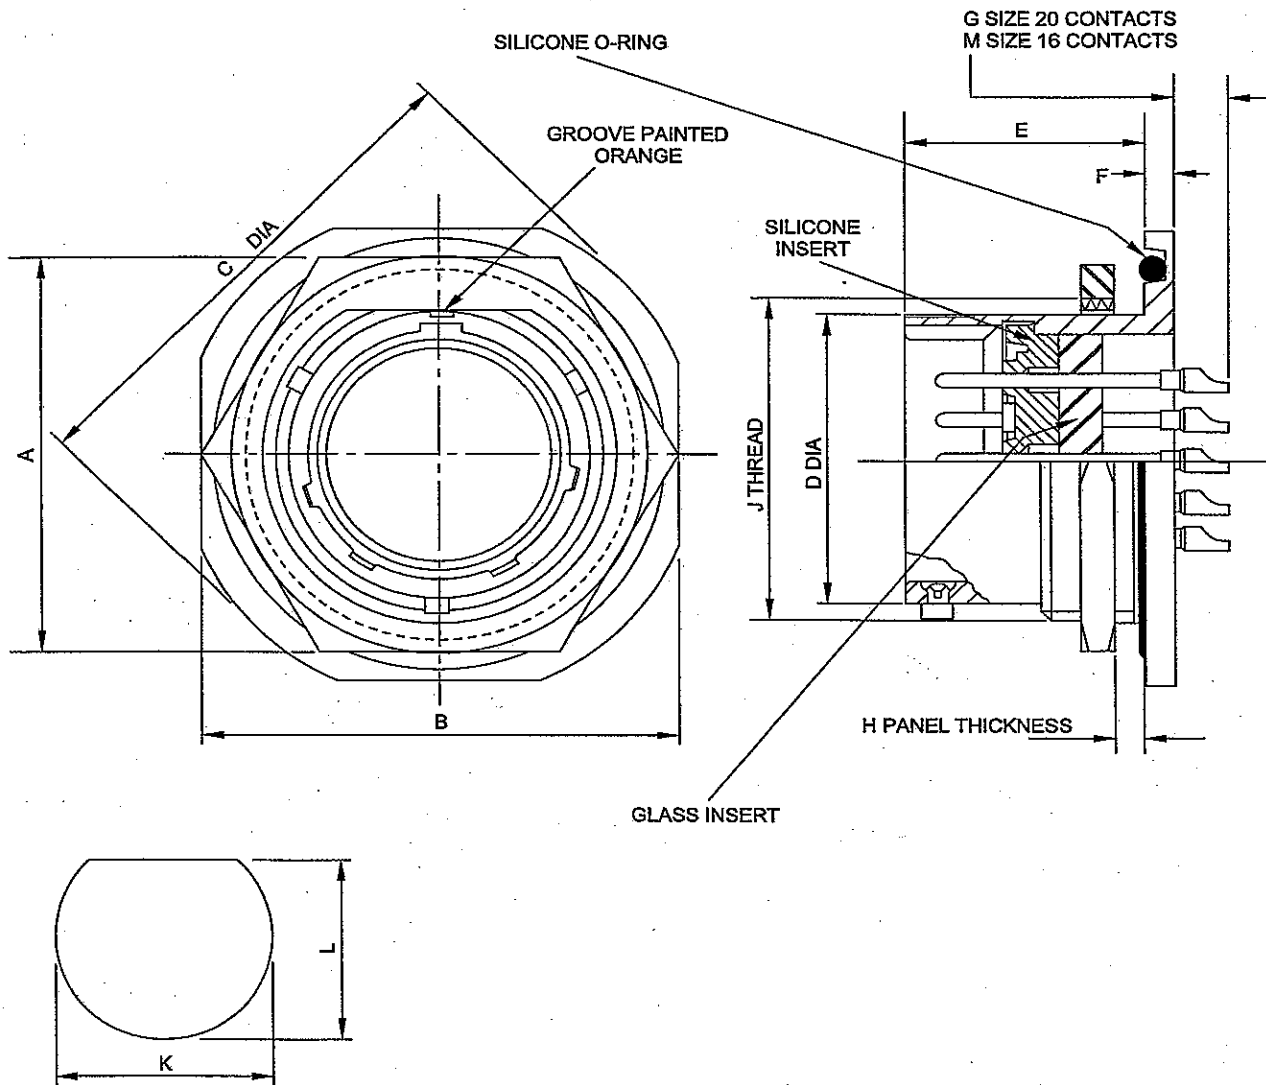
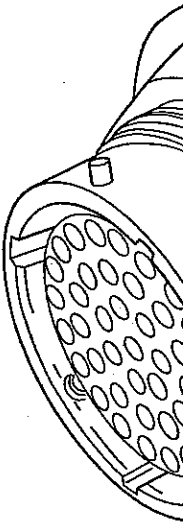

Fig 22 467 Jam nut receptacle, dimensions
Fig 23 467 Jam
16.1 The 467H jam nut receptacle details are given in Fig 22 and Table 13. It conforms to MS3114 specification (Fig 23).